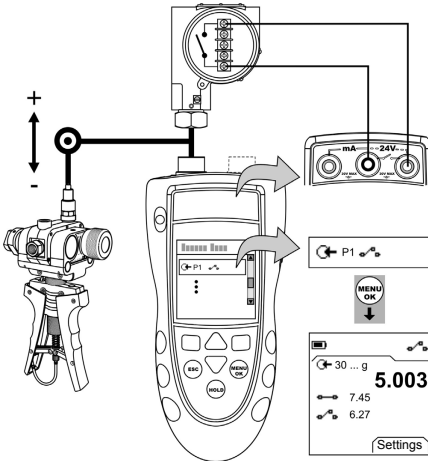

Figure 4: Example configuration - Switch test
1. Connect the instrument (Figure 4) and, if necessary, adjust the *Set Up* (Table 1).